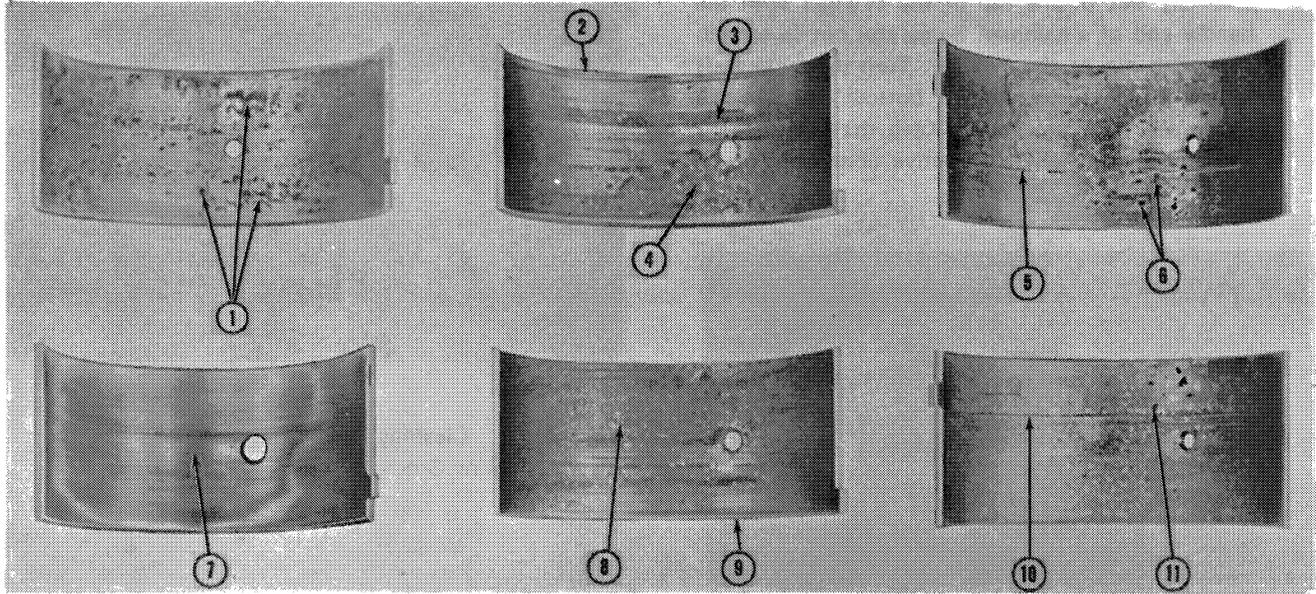

Figure 40
1. If the bearing liners are scored, have the flash overlay wiped out, show fatigue failure, or are badly scratched, as shown in Figure 40, install new bearing liners.